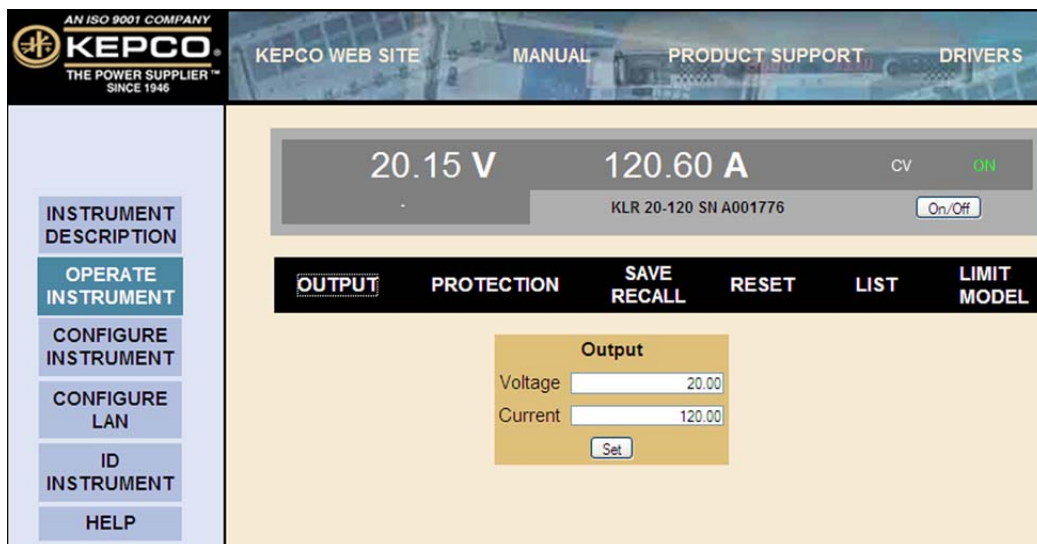
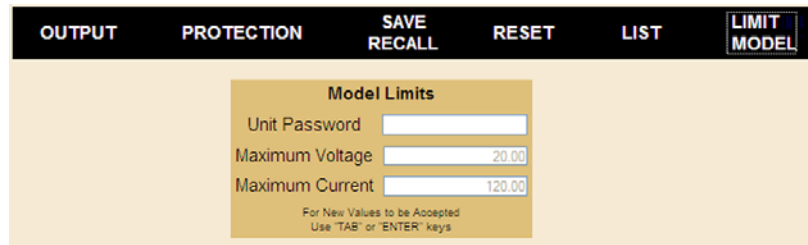

FIGURE 3-7. WEB INTERFACE OPERATE INSTRUMENT PAGE
FIGURE 3-13. LIMIT MODEL DIALOG BOX
The Output dialog box opens when the OPERATE INSTRUMENT page is first opened, or when **OUTPUT** is clicked (see Figure 3-7). To set output voltage or current, enter the values and click SET. Voltage and current settings are not allowed to exceed either a) the limit model setting or b) 83.3% of the protection value. Attempts to set voltage or current beyond these limits will not be accepted. To turn the output on or off, click the ON/OFF button within the simulated front panel.
- **To save the active settings:** Enter the desired location (1 to 40) in the **LOCATION** box and click **Save State** button to save the active settings. Only the parameters shown in Figure 3-7 can be saved.
Refer to PAR. 3.2.9 for details about what Limit Model means for KLR and how the limit model affects other parameters. Click **LIMIT MODEL** (Figure 3-7) to open the Limit Model dialog box (Figure 3-13). The current limit model settings are displayed. To change the settings enter the Unit Password (see PAR. 3.2.8) and press ENTER key on the computer keyboard. After the password is accepted, the Unit Password field is inaccessible (gray) and the Maximum Voltage and Maximum Current fields can be changed. Enter the desired maximum voltage and maximum current, then press ENTER key; all fields are gray for a second or two while the power supply accepts each entry. The Password field is reset after leaving the Limit Model dialog box.